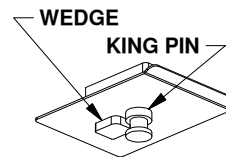
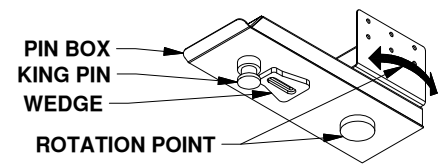

FIGURE F1: Capture plate.
FIGURE F2: pin box with rotation point.
**⚠ WARNING:** Towing a trailer without a functioning pivot point between the hitch & trailer will cause significant damage to the hitch which may lead to serious injury or death. Some pin boxes such as a Pull-rite® Superglide Capture Plate remove the pivot point between a trailer and coupler and should not be used, See figure F1. Pin boxes with a wedge that relocates the pivot point such as a Reese® Sidewinder or Reese® Revolution may be used, see figure F2.